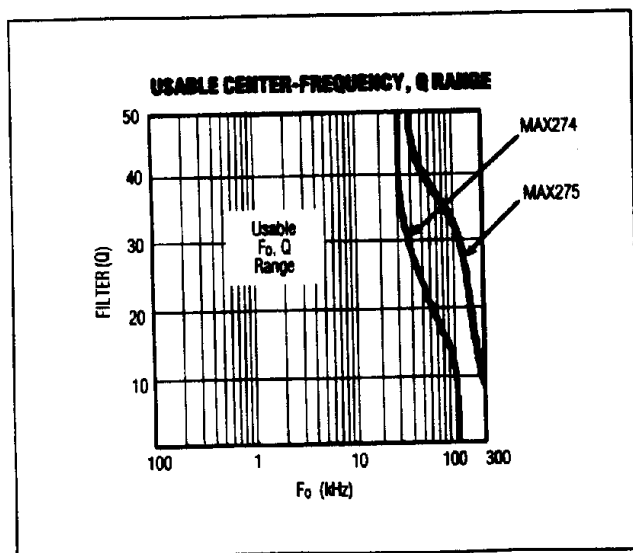

Figure 4. Usable F_0 , Q Range. See *Translating F_0/Q Pairs into Hardware (Resistor Selection)*.
1. Check all F_0/Q pairs for realizability. The MAX274/MAX275 have limits on which F_0/Q values can be implemented. These limits are bound by finite amplifier gain-bandwidth and amplifier load drive capability (which limit the highest frequency F_0 /highest Q_s) as well as amplifier noise pickup and susceptibility to errors caused by stray capacitance (which sets a low-frequency limit on the poles). Refer to Figure 4 to be sure each F_0/Q pair is within the "realizable" portion of the graph. If filter Q_s are too high, reduce them by increasing the filter order (that is, increase the number of poles in the overall filter).
High-frequency F_0 s (up to 400kHz) and high Q_s outside of Figure 4's limits are also realizable, but F_0 and Q will deviate significantly from the ideal. Adjust resistor values by prototyping.